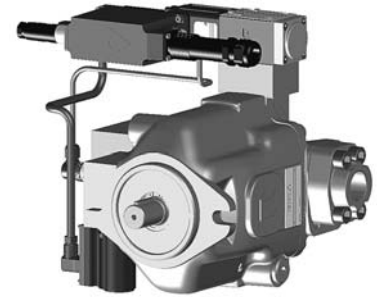

fig. 7
- new drivers E-RI-PES for variable displacement axial piston pumps (see fig. 7), integrate the digital combined pressure and flow control (see above) with an electronic max power limitation. A multiple set of PID parameters can be real time selected during the axis motion via the 12 pin connector (option /S) or through the -BC or -BP interfaces (option /Z), to optimize the P/Q control performances.